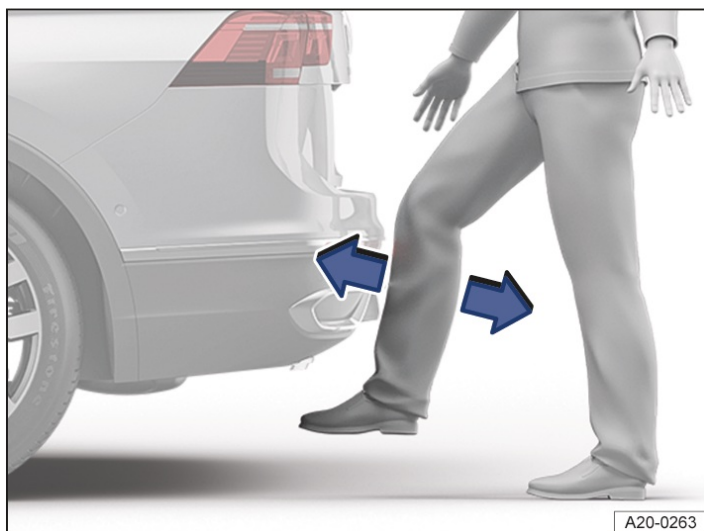

Fig. 1 General example of the sensor-controlled luggage
2. Press and hold the  → *fig. 1* button in the trunk lid until the emergency flashers start flashing.
2. Quickly swing the lower part of your leg close to the bumper → *fig. 1*.